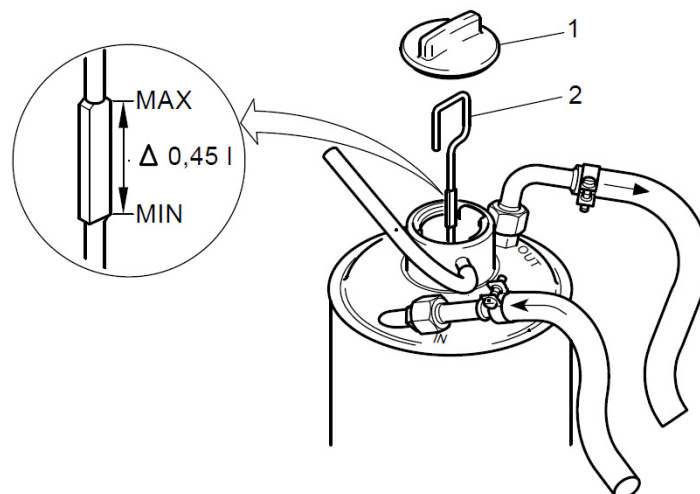

Figure 5.3: Engine oil level check
- 3. Remove the cap Fig. 5.3 [1].
- 4. Check the oil level as indicated on the dipstick Fig. 5.3 [2] The correct oil level is between the minimum and maximum marks in the upper half. If necessary, add more oil.